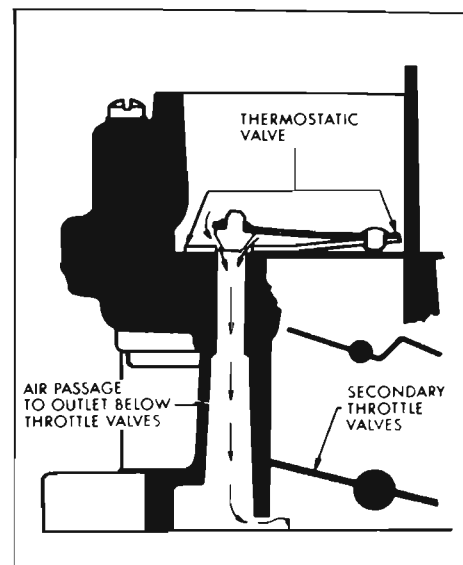

Figure 3-43—Thermostatic Valve Assembly
To compensate for loss of engine RPM while idling under very hot operating conditions, a thermostatic valve assembly is installed in the web between the right and left secondary venturi. When the temperature rises beyond a certain point, the calibrated thermostatic spring opens the valve. This allows additional air to flow through a special passage to an outlet below the secondary throttle valves. At normal operating temperatures, the valve should be closed. The thermostatic valve cannot be adjusted or repaired; therefore, a faulty valve must be replaced. See Figure 3-43.
11. Remove thermostatic valve and gasket. See Figure 3-43.
3. Install thermostatic valve using new gasket. See Figure 3-43.